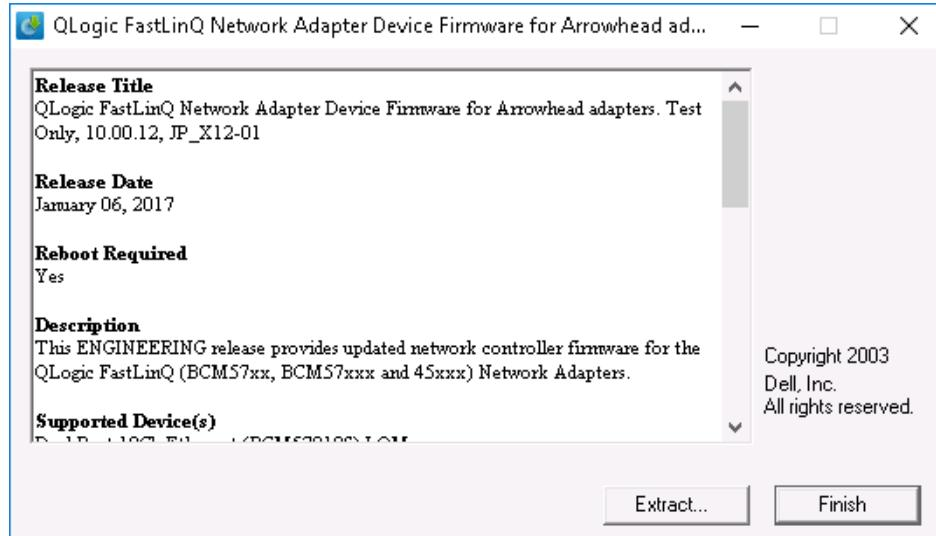

Figure 4-4. Dell Update Package: Finish Installation
4. Click **Finish** to complete the installation, as shown in Figure 4-4.